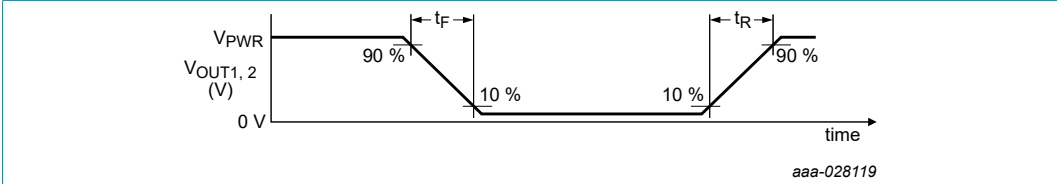

Figure 7. Output switching time
- [8] Rise time is from the 10 % to the 90 % level and fall time is from the 90 % to the 10 % level of the output signal with $V_{\text{PWR}} = 14 \text{ V}$, $R_{\text{LOAD}} = 3.0 \Omega$. See Figure 7.